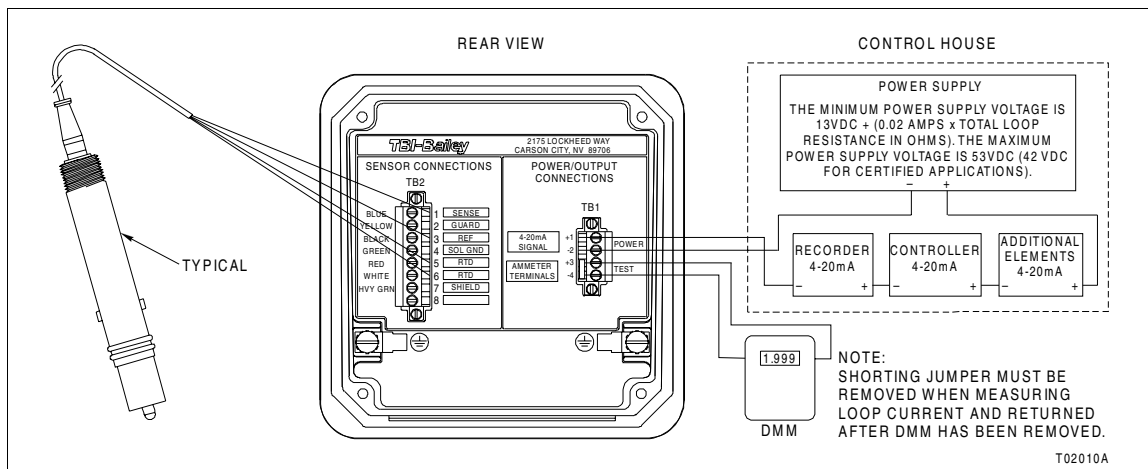

Figure PR6-1. Pin Terminal Sensor Connections
- 2. Use the small bladed screwdriver to connect the sensor wiring as shown in Table PR6-1 and Figure PR6-1.